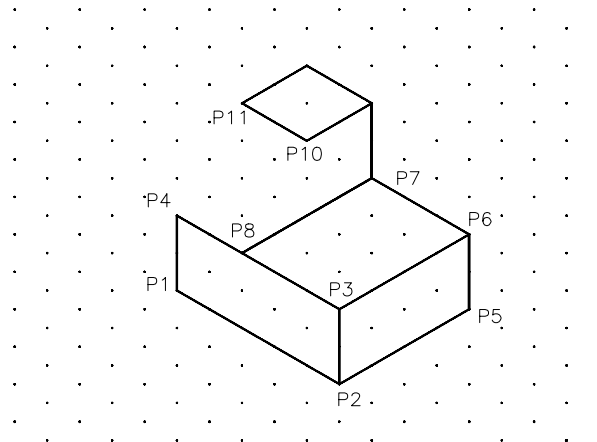

Figure 23-12 Drawing the remaining lines
5. Similarly, draw the remaining lines, as shown in Figure 23-12.